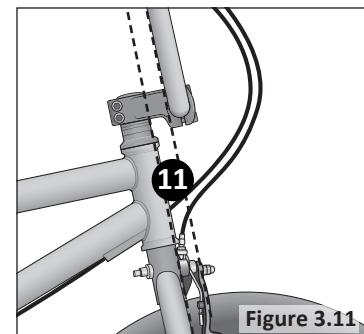

Figure 3.11
- 11 Look from the side of the bike and check that the handlebar is parallel with the fork. **Figure 3.11**